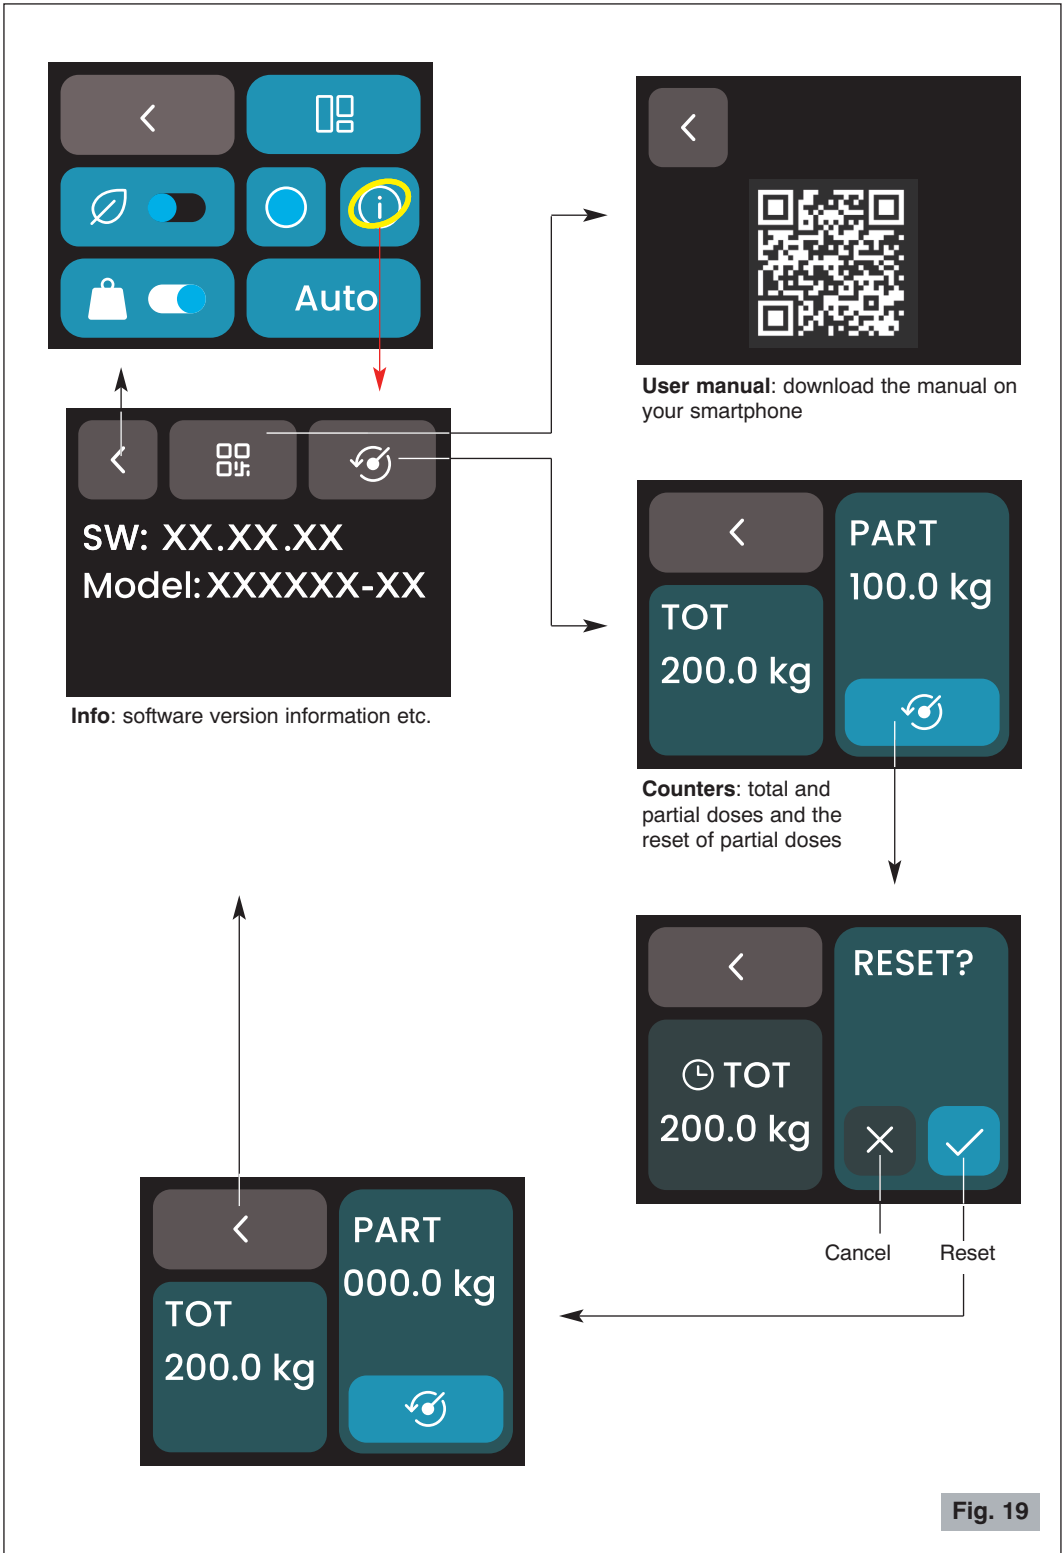

Fig. 19
**Info (Fig. 19)**
Press  to enter the **Info** page (see Fig. 19).
**Distributed shot counters - see Fig. 19**
On the **Info** page, press  to enter the counters page (see Fig. 19).